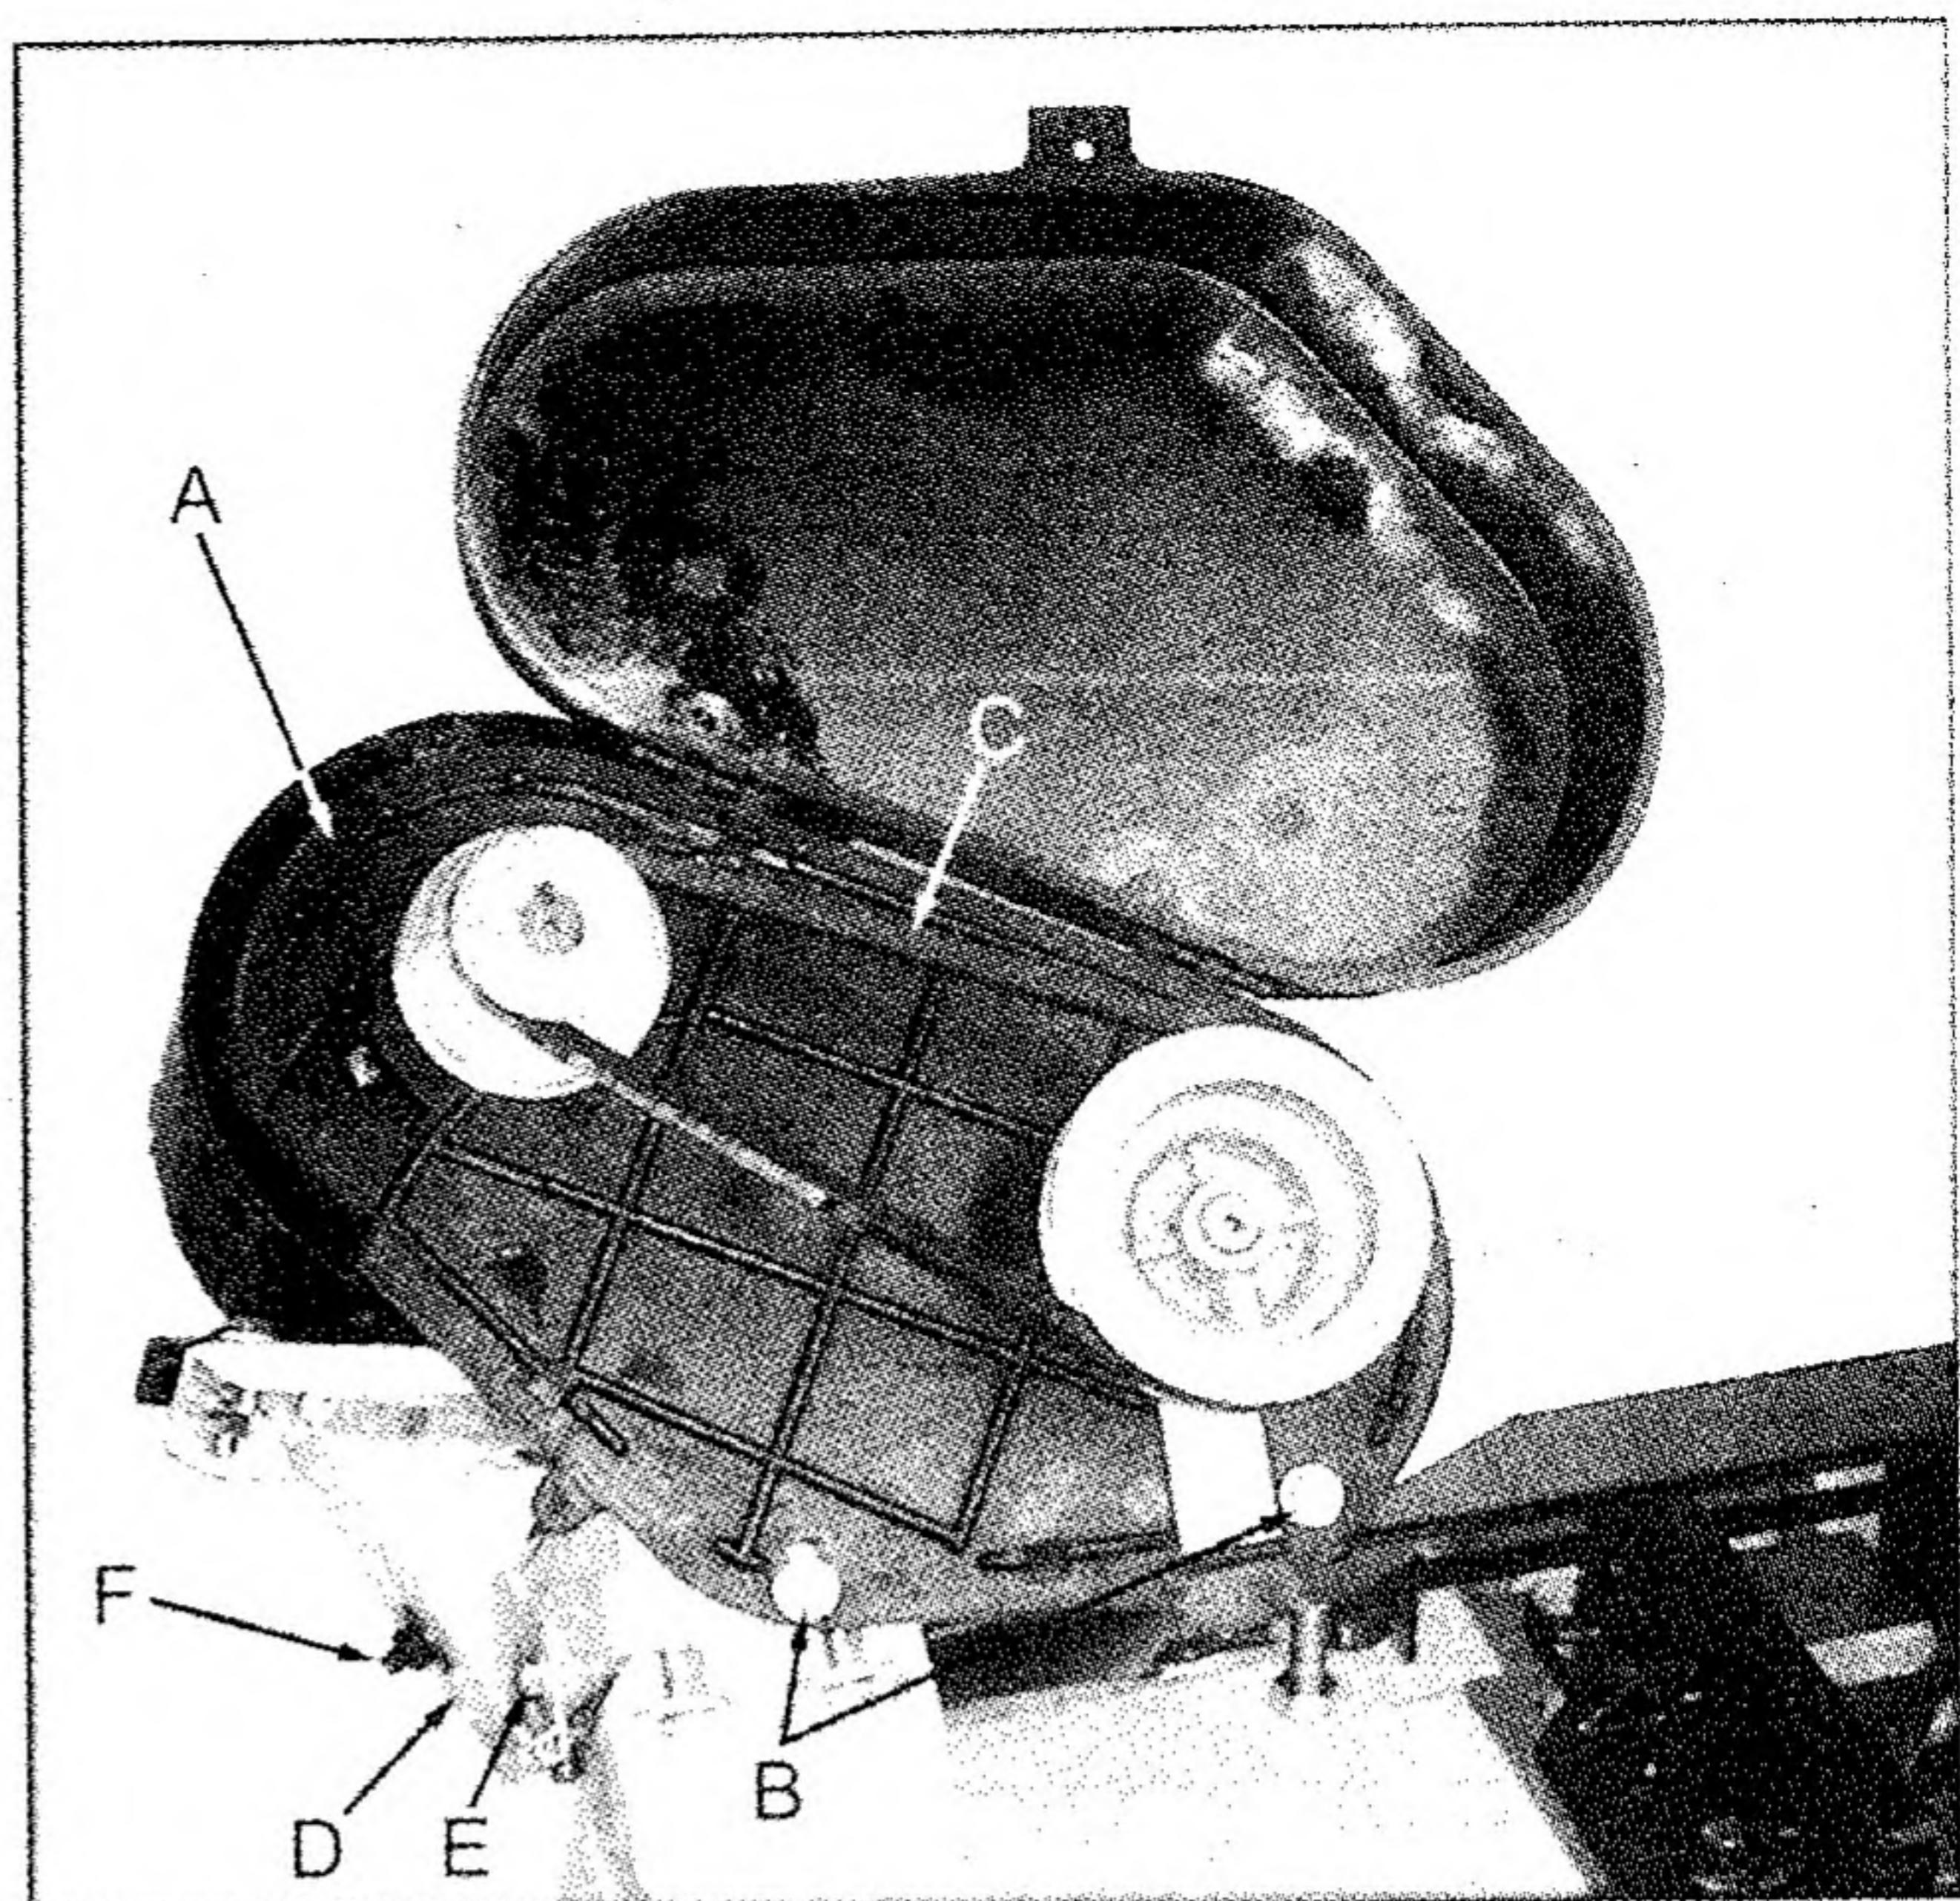

Fig. 5
11. Slide pulley cover (A, Fig. 5) around motor shaft and worm gear shaft. Secure with two hex cap screws and washers (B, Fig. 5).
12. Lift motor with one hand while the other hand places V-belt (C, Fig. 5) on both pulleys.
13. Attach the tension bracket (D, Fig. 5) to the saw bow with one 5/16"x3/4" hex head bolt and flat washer (E, Fig. 5).
14. Connect the two tension brackets with one 5/16"x3/4" carriage bolt, one 5/16" flat washers and one 5/16" hex nut (F, Fig. 5). **Hint:** Insert the carriage bolt from the inside so the hex nut is easy to access with a wrench.
15. Tension belt by pressing down on the motor while tightening hex nut (F, Fig. 5) until finger pressure on the belt between the two pulleys causes approximately 1/2" deflection. Close pulley cover. Don't over tighten the belt.